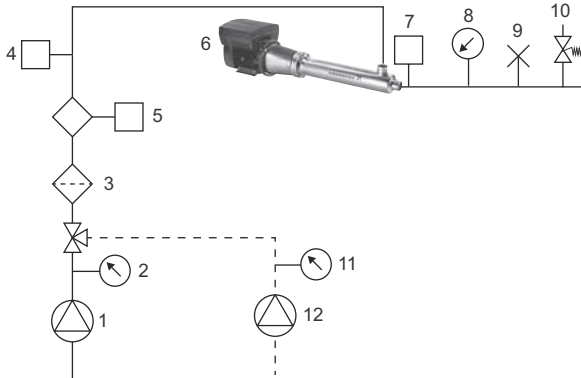

Fig. 19 Example of BMS hp pump
5. Set the outlet pressure of the BMS hp pump to the desired value. See fig. 19.